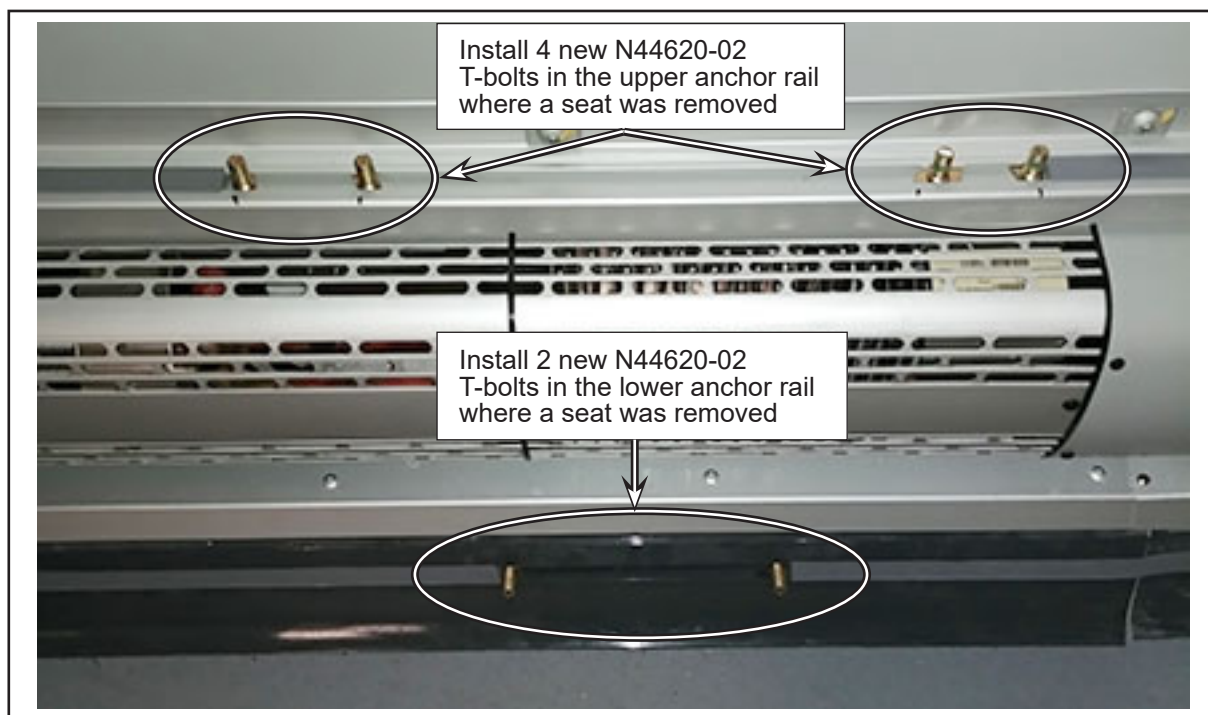

Figure 6 - Position of N44620-02 T-bolts
- i. Install 6 N44620-02 T-bolts in the anchor rail for each removed seat. See Figure 6.